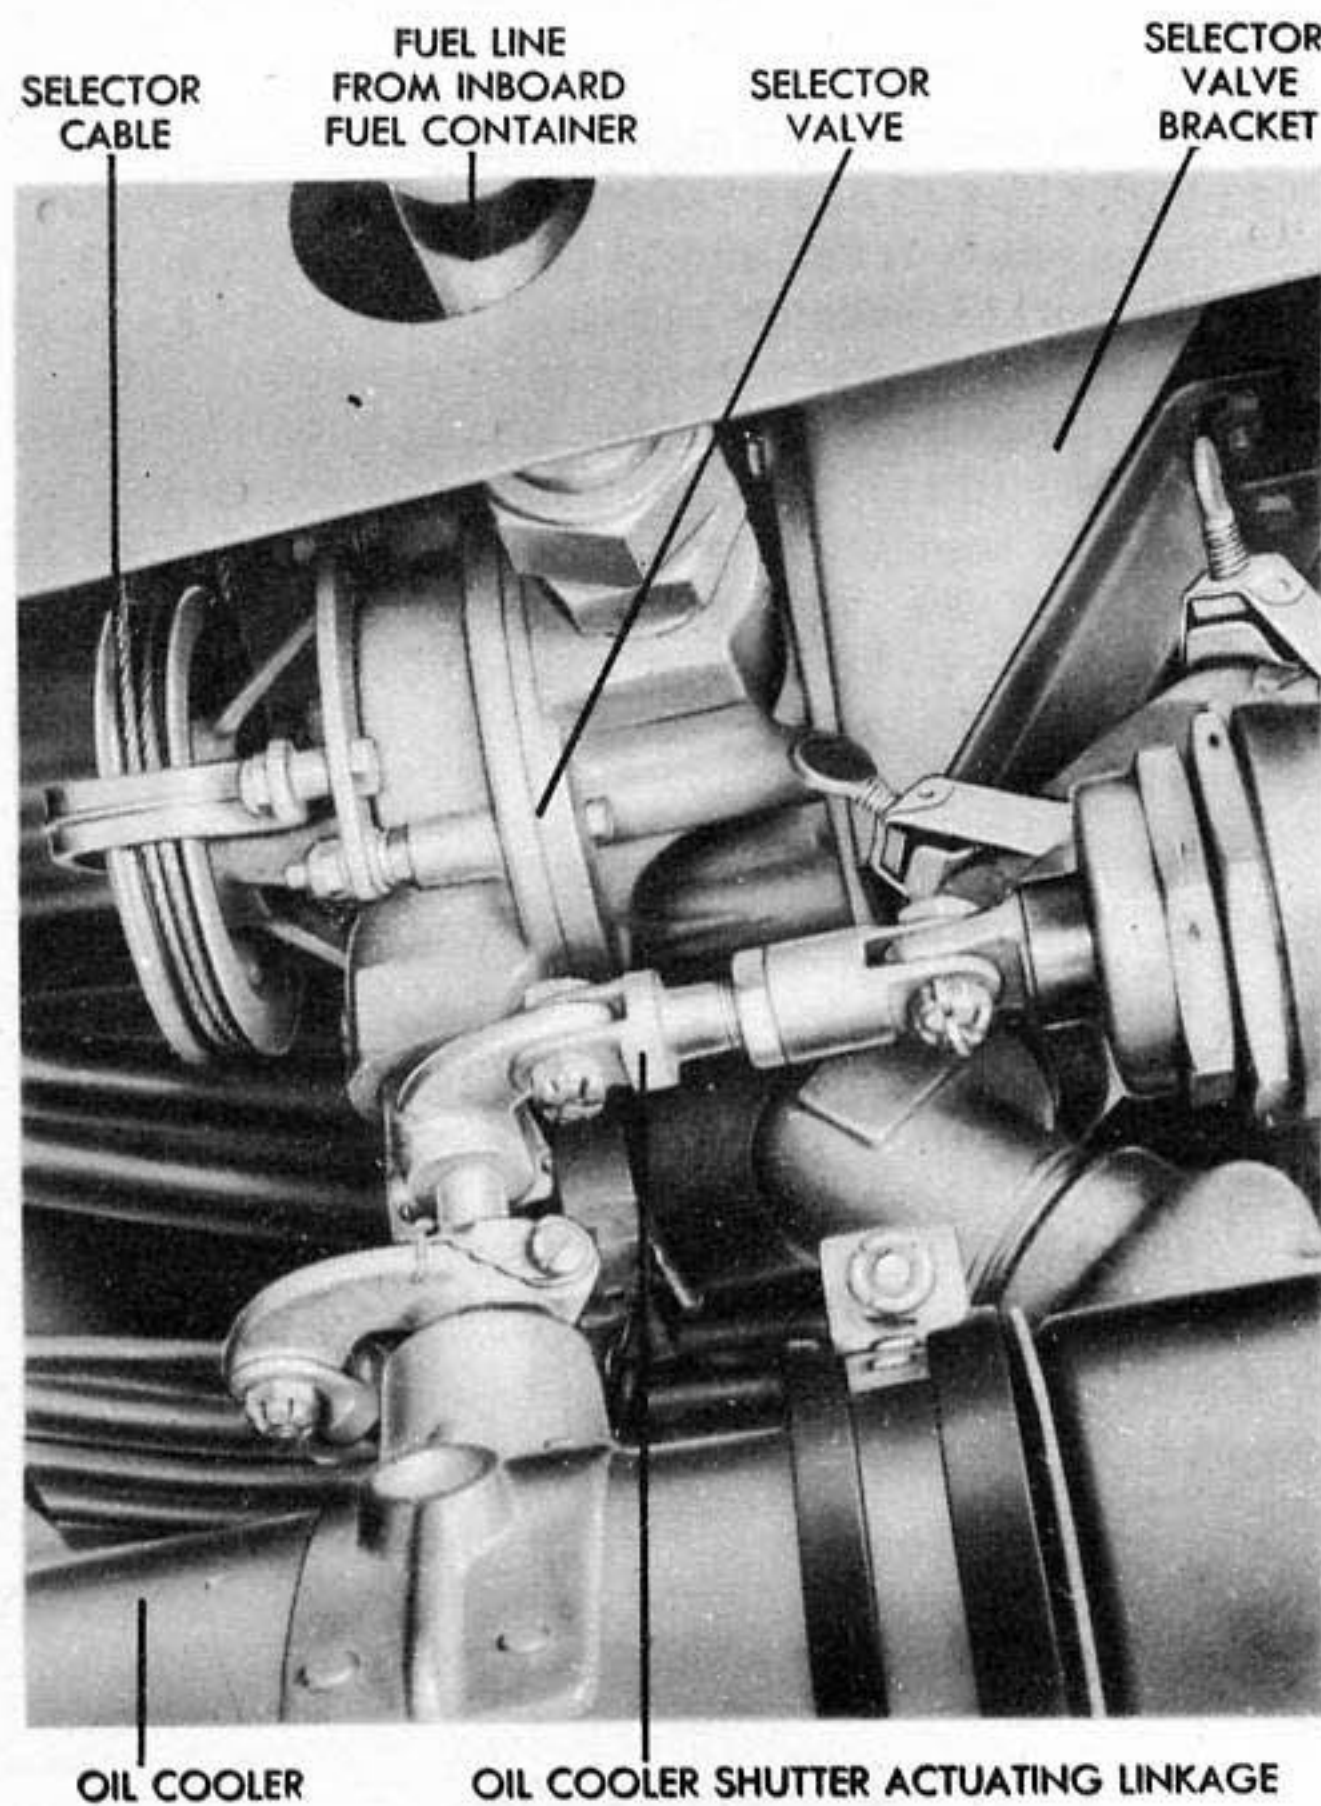

Figure 154 - INSTALLED FUEL TANK
(12) **REMOVAL OF FUEL TANK SELECTOR VALVE.** (See figure 154.)